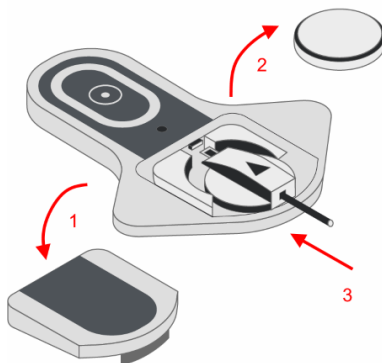

Fig. 12 – Connecting the device connector of the download cable to the recorder
Open the battery compartment of the recorder (1) and remove the battery (2). Insert the device connector of the download cable into the socket (see illustration) of the recorder (3) as shown in (Fig. 12).